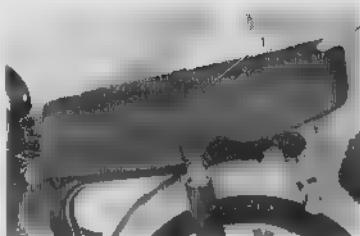

Fig. 4.51 Removing seat ① Seat
① 6 mm nut
② Seat
2. Remove the seat ① by pulling up and back toward the rear (Fig. 4.51)